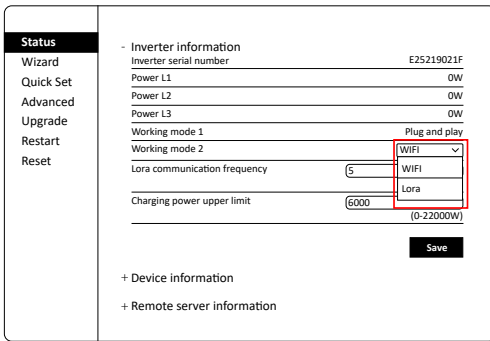

Figure 6.2
step 4: You can select the desired communication mode from the drop-down list of the "Working mode 2" sub item on the "Status" page, as shown in Figure 6.2